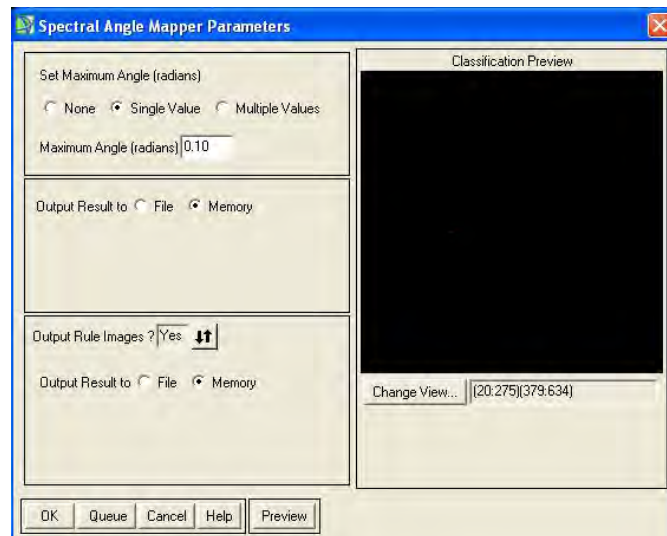

Figure 15. Spectral Angle Mapper Parameters Window with the Preview window
20. After you click Preview, the preview window is added to the SAM Parameter window (see Figure 15). The overview window ONLY shows the pixels of a section of the entire image that are classified by the SAM. Unclassified portions of the sample will not be shown.